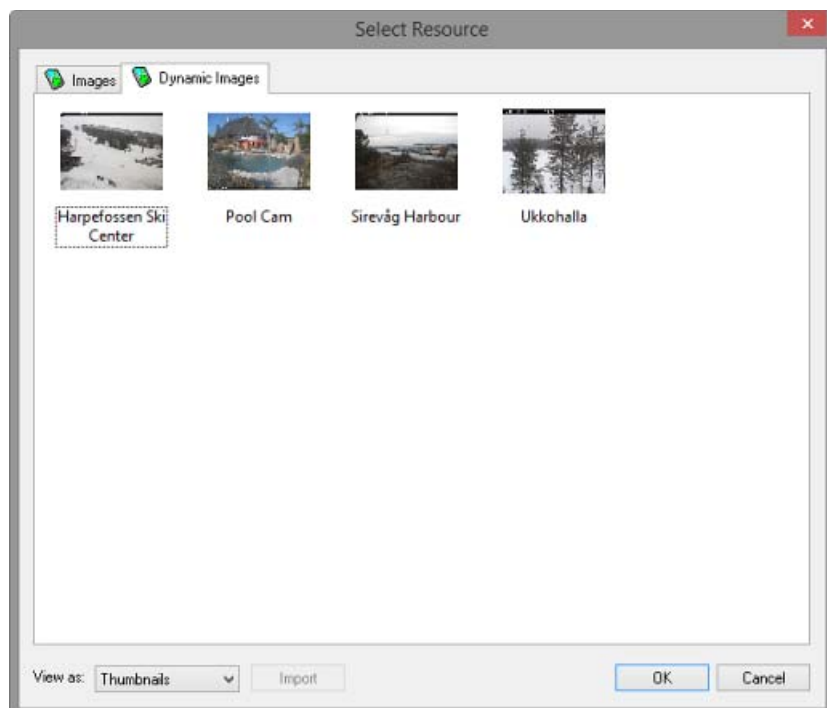

FIG. 35 Select Resource dialog (Dynamic Images tab) indicating four dynamic images in the project
3. Click **Add** to access the *Select Resource* dialog, and open the *Dynamic Images* tab (FIG. 35):